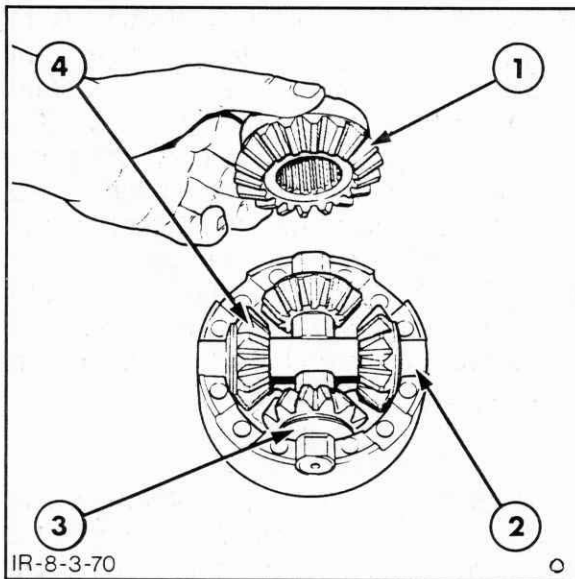

Figure 7-133
8. Locate the bevel gears and thrust washers onto the shafts and position the shafts into the differential housing, Figure 7-133. It will be necessary to lightly tap each shaft to ensure they are fully seated in the housing.